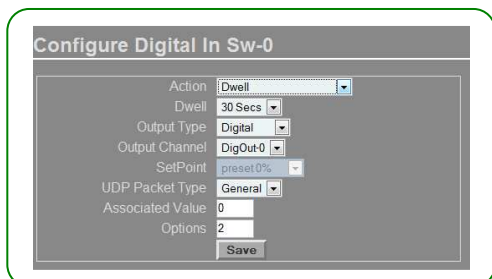

Figure 7: Dwell Configuration
- This will open the configuration page for Digital Input 0. On this page you can alter the action provoked when input 0 is triggered. The fields of interest to achieve the functionality desired are the first and second field. In the first field the action has to be changed from 'Toggle' to 'Dwell' and in the second field the duration of the dwell has to be set to one of 4 presets. The most sensible dwell period for this test application is 30 seconds. See also figure 7 for these settings.